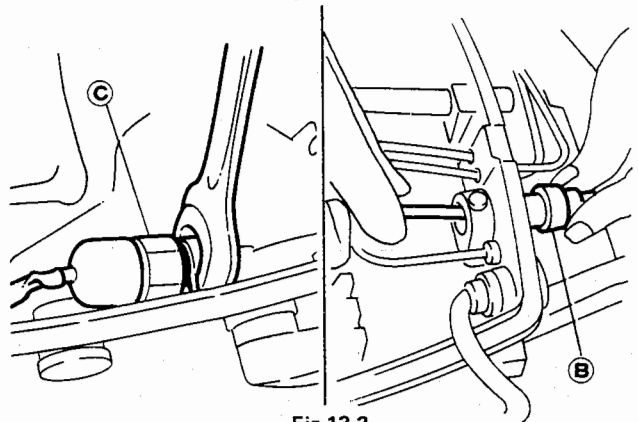

Fig.13.2
- Install main switch **B** and neutral switch **C** on the lower motor cover. (Fig.13.2)